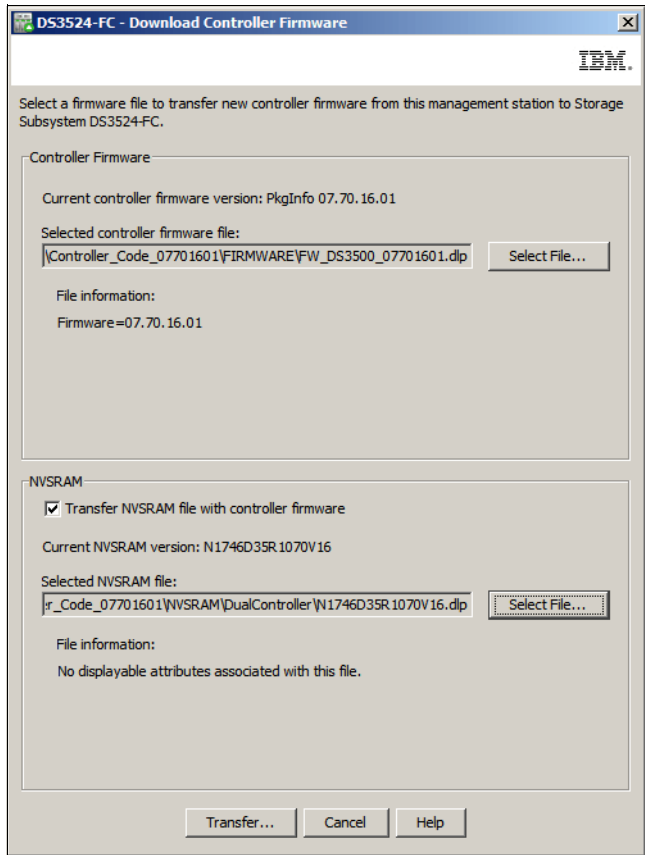

Figure 14-70 Download Controller Firmware - With NVRAM firmware
5. To update the NVSRAM in the same step, select the **Transfer NVSRAM file with controller firmware** check box and browse to the NVSRAM file (Figure 14-70 on page 376).